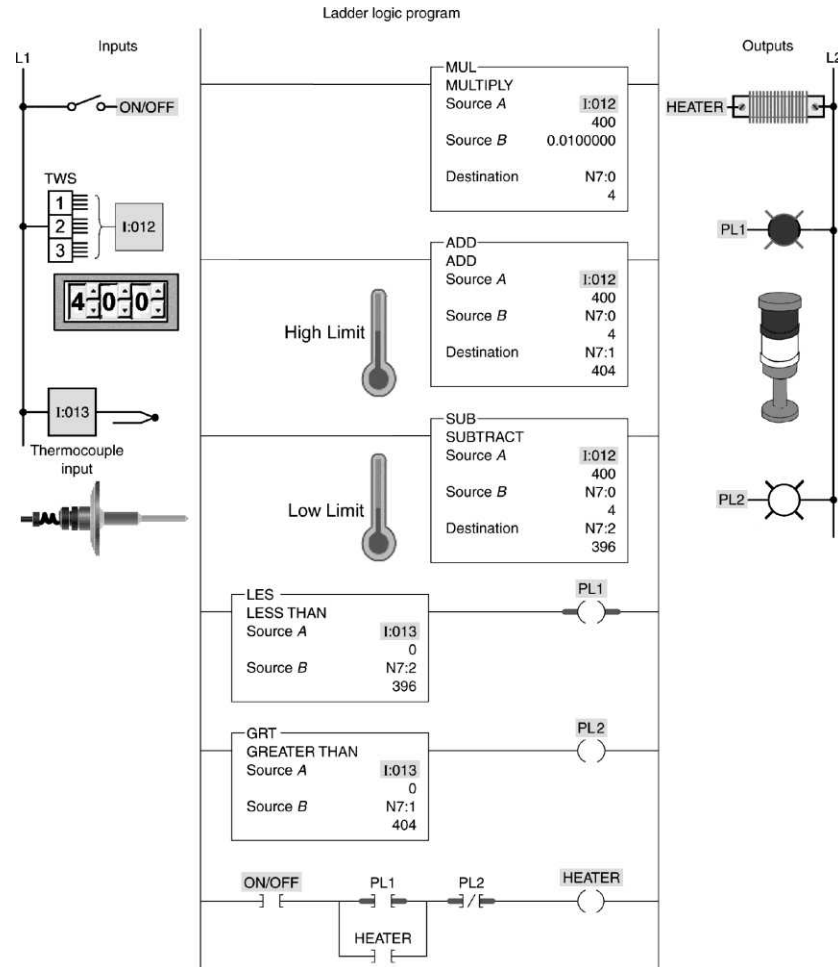

Figure 11-30 Temperature control program for assignment 3.
3) The temperature control program of Figure 11-30 is described in the text.